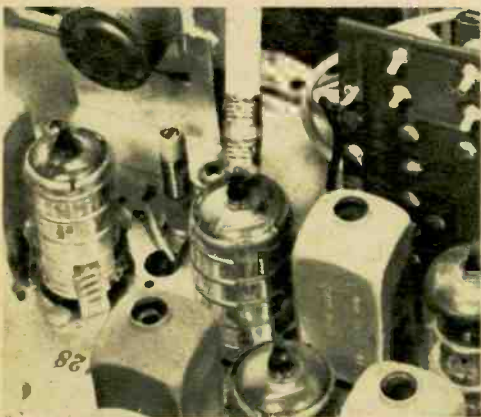

Fig. 1—Howling when the volume is turned up means a microphonic tube. Tap each tube with a pencil eraser; the bad one will cause a lot of noise.
**Ringin when volume is turned up.** Look for a microphonic tube, one that howls when tapped by a pencil (Fig. 1). Start at the front-end and work toward the speaker.